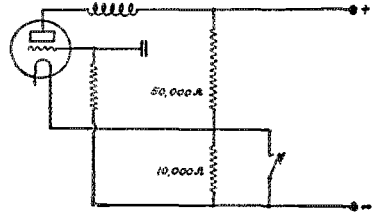
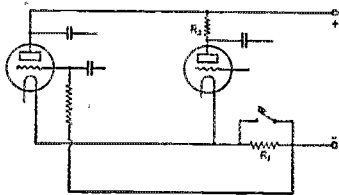

FIG. 1
FIG. 2
**P**ERHAPS one of the most effective methods of starting and stopping oscillations in an oscillator is that so long advocated by Hoffman of W9EK. It is shown in Fig. 1.
We found in Fig. 1 that we could start and stop our oscillator by transferring part of the supply voltage from the plate to the grid circuit and back again. The same thing will apply to an amplifier although it may be necessary to increase the amount of voltage on the grid to stop the operation of the tube.
Since the oscillator is drawing current continuously, it is unnecessary to use the voltage divider shown in Fig. 1. A resistor of much smaller value may be inserted in the negative supply lead to the oscillator and the voltage drop across it applied to the grid of the amplifier. This is shown in Fig. 2.